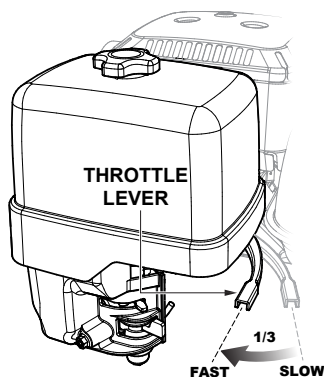

Figure 8. Engine Throttle Lever (1/3 Start Position)
3. Move the engine throttle lever (Figure 8) away from the slow position, about 1/3 of the way toward the fast position.